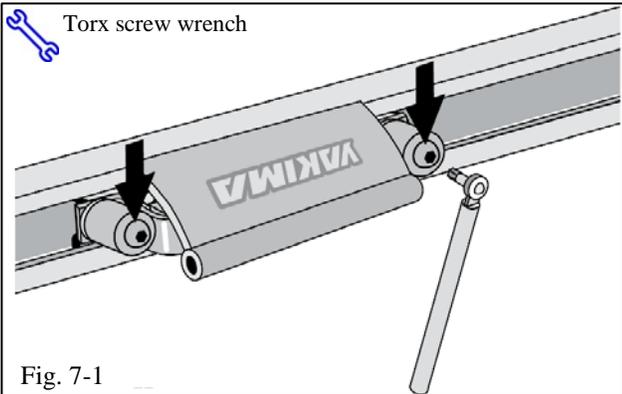

Fig. 7-1
- (a) Tighten the theft-deterrent bolts with the Torx screw wrench supplied (Fig. 7-1).